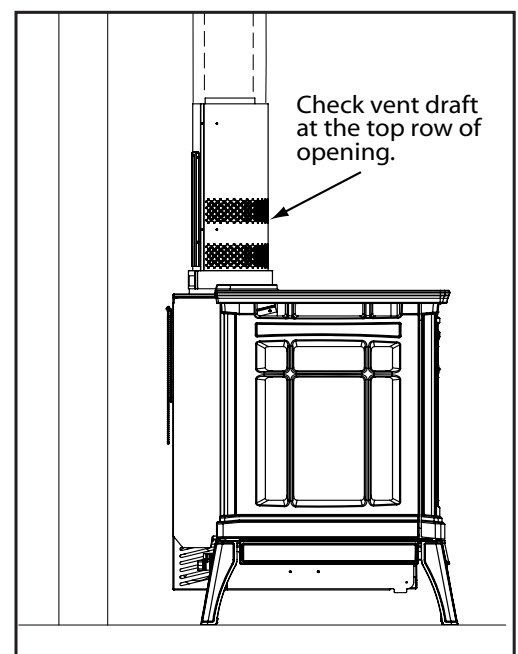

Figure 39: Draft test place.
4. After a minimum of 10 minutes operation, test the chimney draft with a smoke match at the top row of the pattern to confirm that there is adequate draft or 'pull' at the openings around the body of the Draffhood Adaptor, as shown in Figure 39.